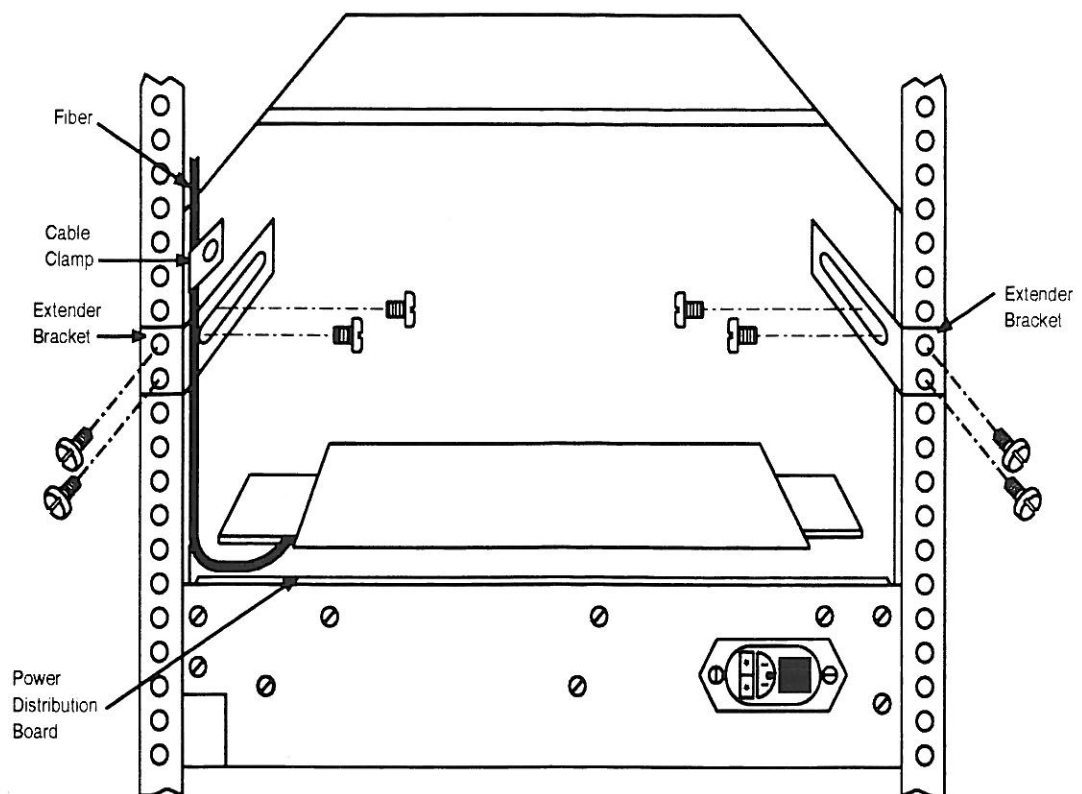

Figure 3-6. Rear Shelf Support Installation
4. Install the two extender brackets as shown in Figure 3-6. Note that the screws are inserted from inside of the shelf through the bracket and into the shelf side panel. The screws that fasten the extender brackets to the shelf side plates should be put in first. Do not tighten the screws at this time.
8. Prepare the incoming fiber cable and provide strain relief for the cables with a cable clamp (see Figure 3-6). The cable clamps are not provided with the shelf.